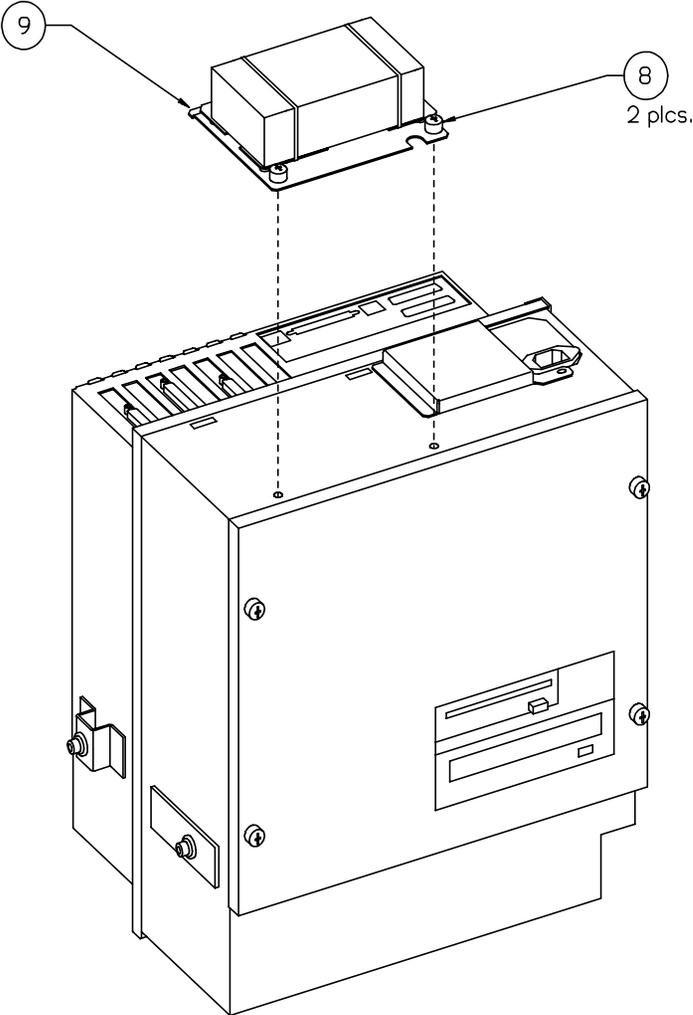

Figure 25
Note: The FluoroTrak Kit and its Mounting Bracket, and the Computer Box Asm. do not need to be removed to remove the 24V Power Supply. Figure 25 (next page) shows the Computer Box Asm. removed from the Workstation frame for clarity.
8. Loosen the 2 thumbscrews that attach the Power Supply mtg. plate to the top of the Computer Box. See Figure 25 (next page).
9. Remove the Power Supply. See Figure 25 (next page).